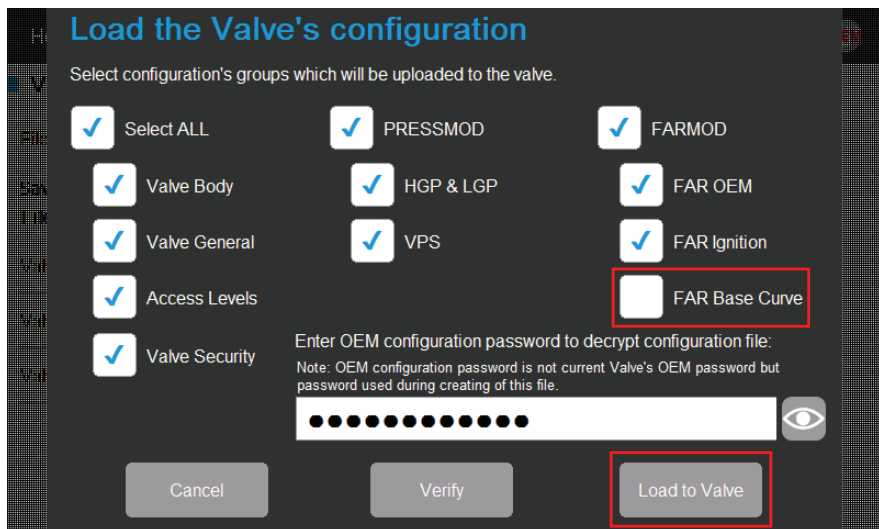

Fig. 138: Valve Production cloning configuration groups selection.
4. Navigate to the Valve Production Cloning menu. Upload the saved valve configuration to the new electronics, following the Configured Valve Procedure in CHAPTER 7, cloning all parameters **EXCEPT THE BASE CURVE (if valve is a premix / V2V model)**. Refer to Fig. 138 and the Configured Valve Procedure in CHAPTER 7 for detailed cloning steps.
- a. If all of the items shown in Fig. 138 are checked, the following items are cloned; Valve name + Modbus address + baud rate, Valve General Settings, Units, Access Levels Settings, Valve Security Settings, Proof of Closure setup, Pressure Module Lockout Types and VPS Setup, Fuel/Air OEM Setup + Ignition Setup.